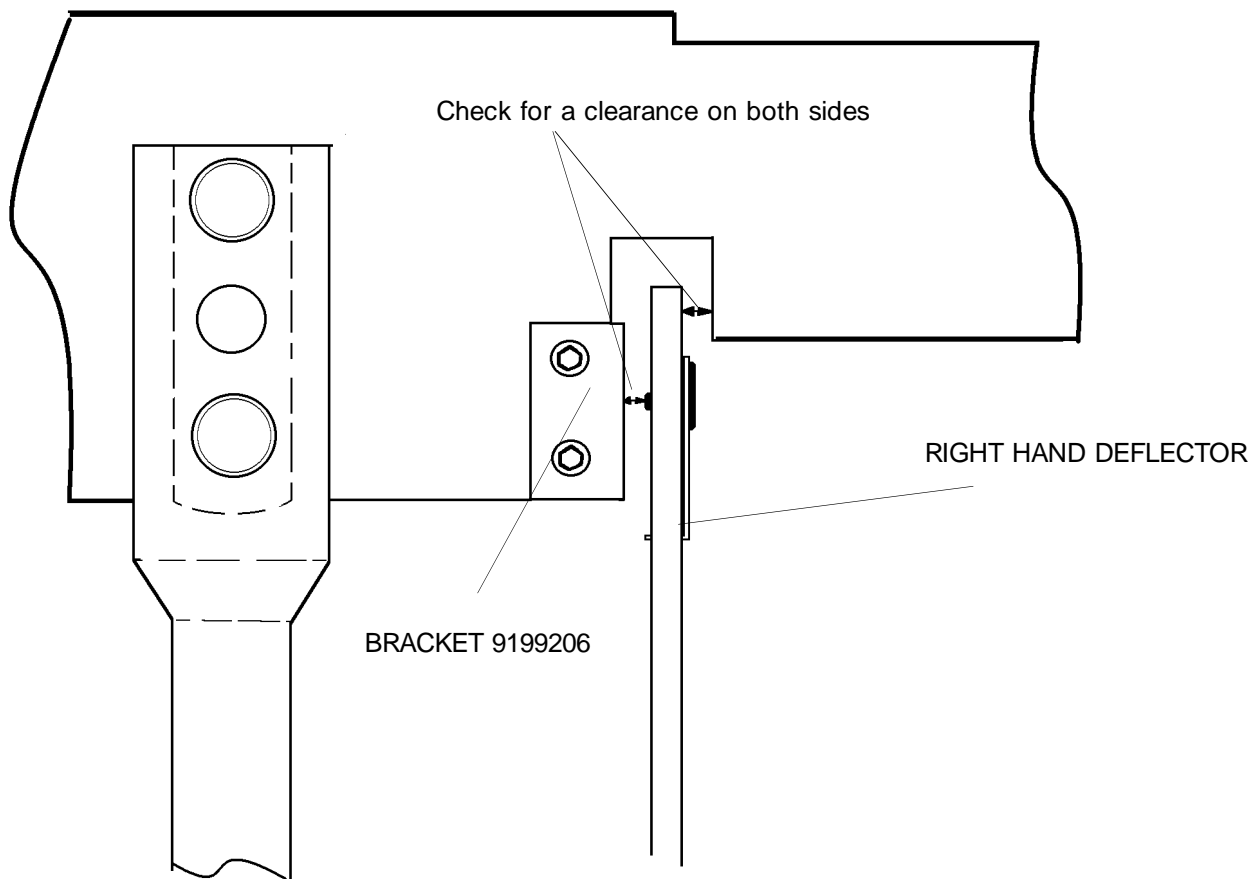
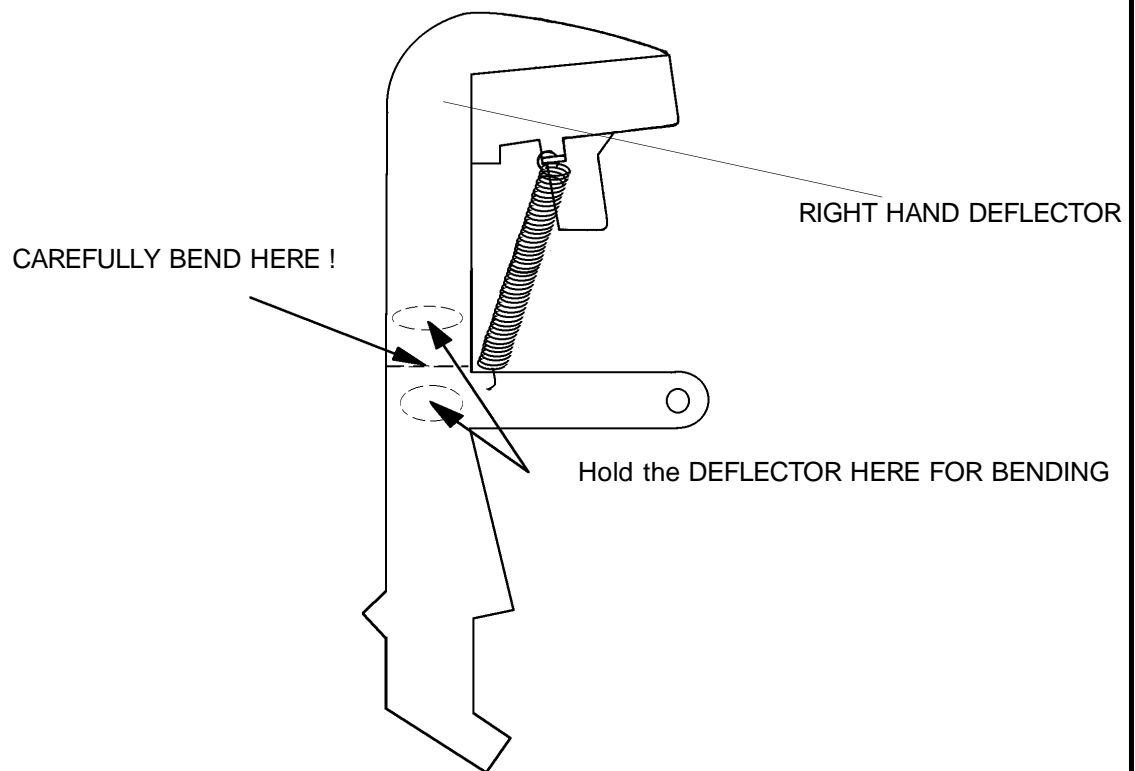

figure 17
figure 18
- 29.** If necessary carefully bend the RIGHT HAND DEFLECTOR as shown in figure 18. Hold the DEFLECTOR at the indicated points for that the DRIVE SHAFT of the MAGAZINE SUCKERBAR does not become bent. The adjustment of the RIGHT HAND DEFLECTOR is shown in figure 17.